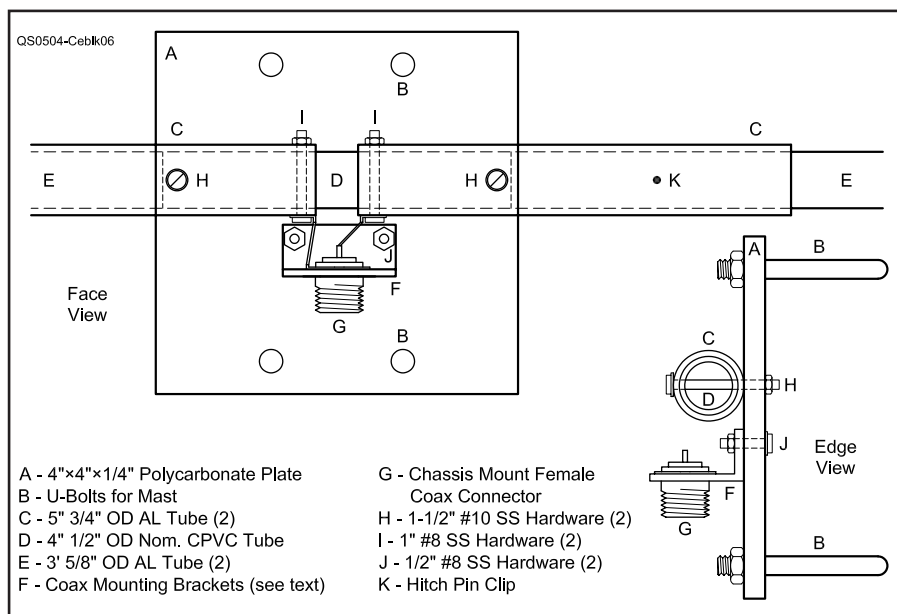

Figure 5—The element and feed-point mounting plate, with details of the construction used in the prototype.
2. *The center hub: mounting and feed-point assembly.* I constructed the plate for mounting the element and the mast from a 4x4x1/4 inch thick scrap of polycarbonate (trade name Lexan), as shown in Figure 5. You may use other materials as long as they will handle the element weight and stand up to field conditions.
I mounted a single-hole female UHF connector on a bracket made from a scrap of 1/16 inch thick L-stock that is 1 inch on a side. I drilled the UHF mounting hole first, before cutting the L-stock to length and trimming part of the mounting side. Then I drilled 2 holes for 1/2 inch long #8 stainless steel bolts about 1 inch apart, for a total length of L-stock of about 1 1/2 inches. The reason for the wide strip is to place the bolt heads for the bracket outside the area where the mast will meet the plate on the back side. Note in Figure 5 that the bracket nuts are on the bracket-side of the main plate, with the heads facing the mast. The bracket-to-plate mounting edge of the bracket needs to be
For this field antenna, the hitch pin clip junctions, shown in Figure 5, hold the element sections in position. The overlapping portions of the tube make the actual electrical contact between sections. Due to the effects of weather, junctions of this type are not suitable for a permanent installa-